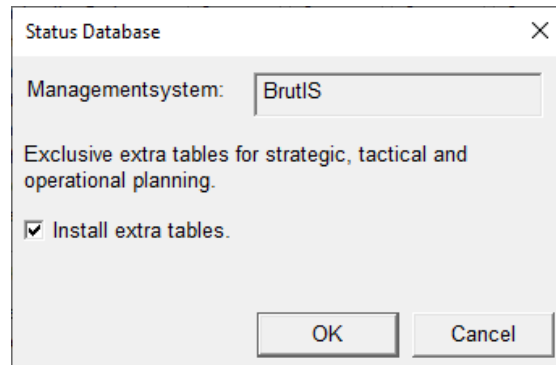
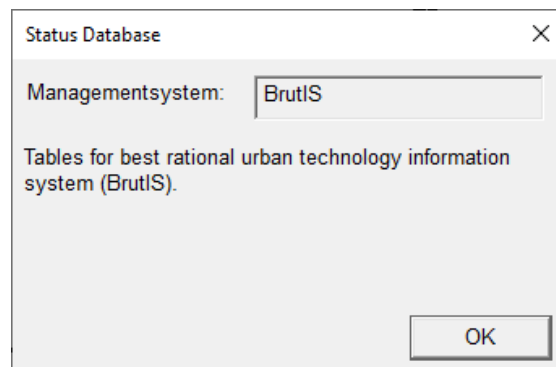

Figure 5.4.2
Figure 5.4.3
2. BRUTIS confirms the database connection with a dialog depicted in figure 5.4.2. If no tables for strategic, tactical and operational planning are found. Confirm this by clicking the check box and click on **OK**. Next time these tables are found and the dialog in figure 5.4.3 will be shown.